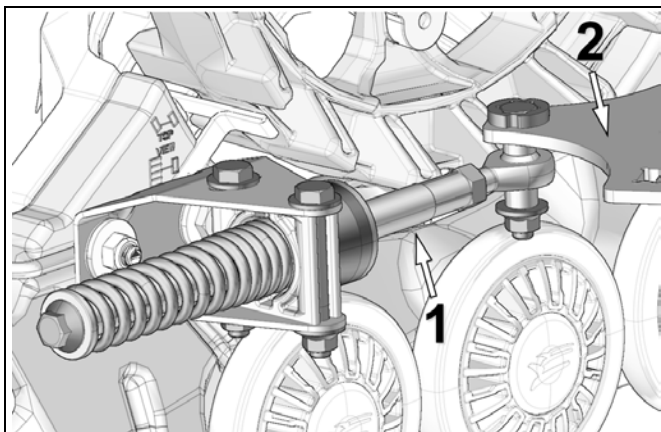

Figure 8
- Stabilizing arm (1) must be attached to the rear anchor bracket (2) installed on the vehicle. See Figure 8.